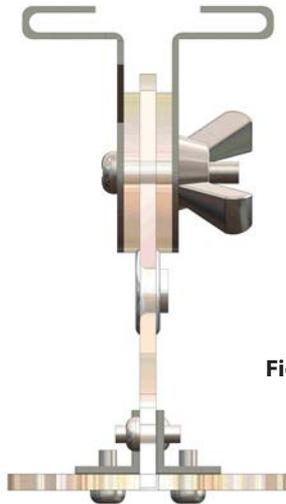

Figure 12
3. Tighten the wing nut. A side view of the completed process is shown in Figure 12.